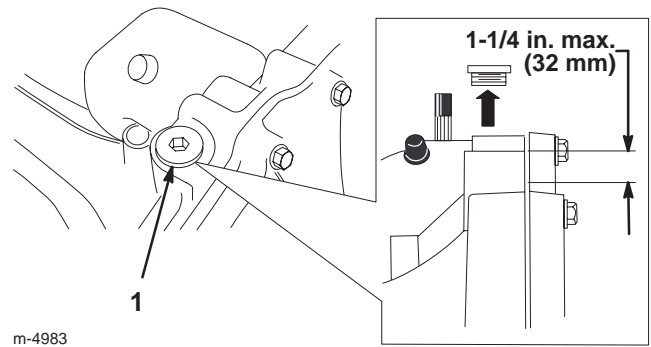

Figure 29
6. Clean around the fill plug (Fig. 29) so that dirt cannot fall into the reservoir if fluid needs to be added.
Note: The level should be a maximum of 1-1/4 in. (32 mm) below the top of the fill port (Fig. 29). Add oil if necessary.